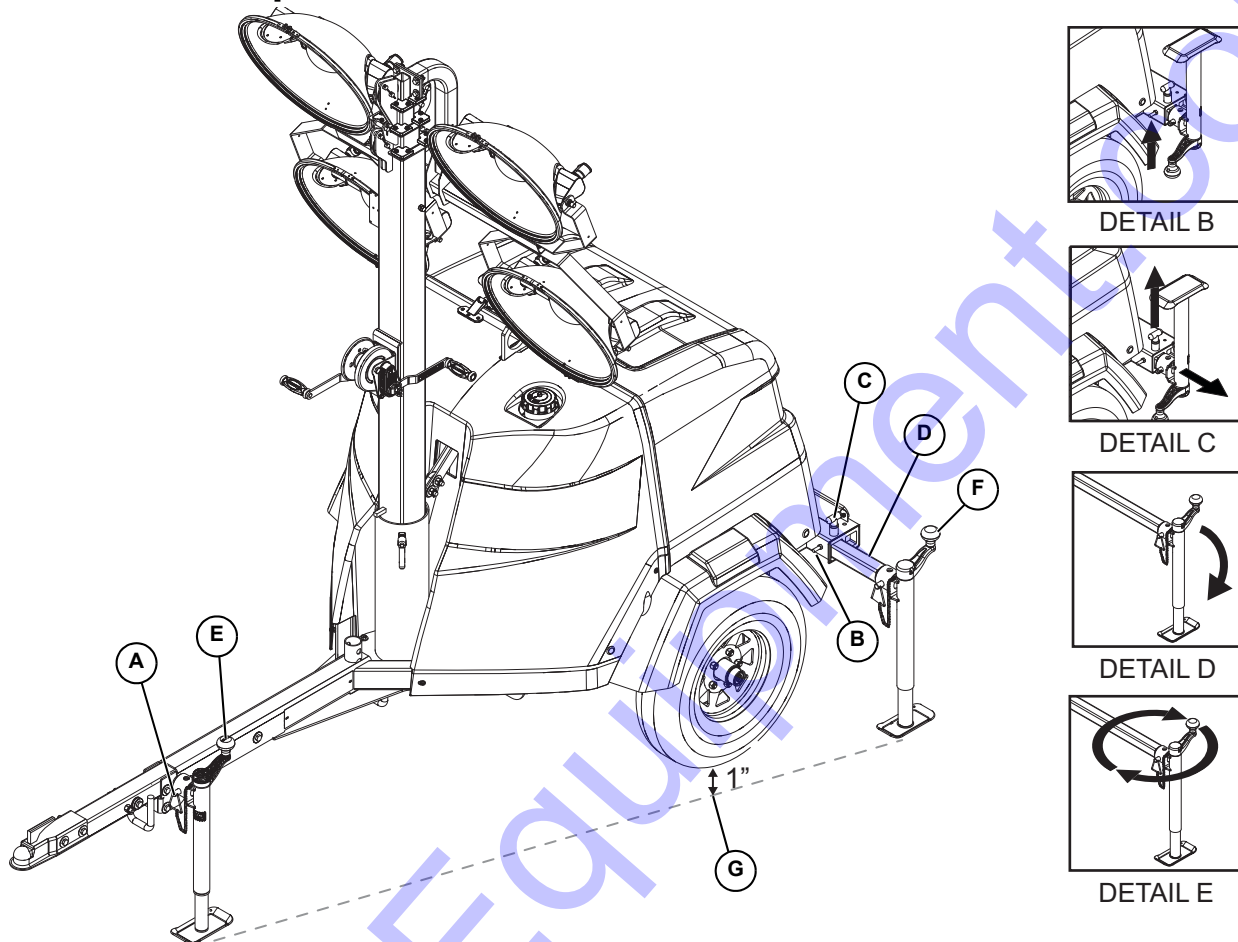

Figure 3-1. Set Up Outriggers and Jacks
2. See Figure 3-1. Place the unit on firm ground that is relatively flat (less than 5° slope), and block the wheels to keep it from moving. This will make it easier to level the unit.
3. Pull the locking pin (A) on the tongue jack (E) and rotate the jack 90°. Reinstall the locking pin. Rotate the jack handle clockwise to raise the trailer tongue off the towing vehicle.
4. A grounding stud (B) is located on the rear frame of the trailer near the left side outrigger. For grounding requirements, follow local, state, and National Electrical Code (NEC) regulations.
5. See Details C–D. Pull the locking pins (C) on the outriggers (D) and pull each outrigger out until the spring loaded locking pin snaps back into place. Pull the locking pin on each outrigger jack (F) and rotate each jack 180° until the jack pad is facing down. Reinstall the locking pin.
6. See Detail E. Rotate each jack handle clockwise to start leveling the trailer. Adjust all three jacks by rotating the handles clockwise until they are firmly in contact with the ground. Continue until the wheels are approximately 1 in (2.5 cm) off the ground (G).